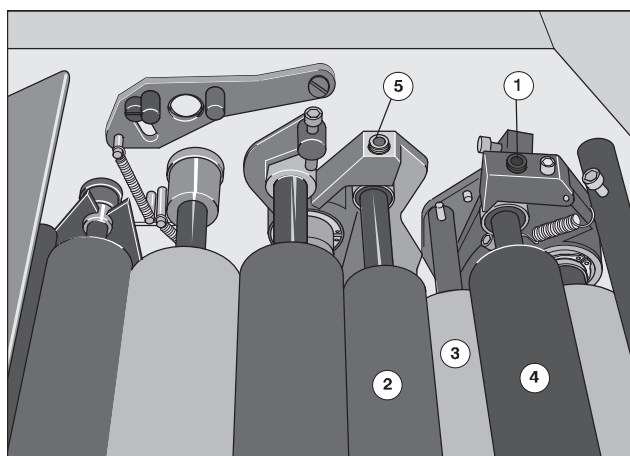

Fig. 61 2nd and 4th ink transfer rollers
- Adjusting screw (Fig. 61/1): adjusts the 4th ink transfer roller (Fig. 61/4) for the ink distributor and for the 3rd ink transfer roller (Fig. 61/3).
- Adjusting screw (Fig. 61/5): adjusts the 2nd ink transfer roller (Fig. 61/2) for the ink distributor and for the 3rd ink transfer roller (Fig. 61/3).